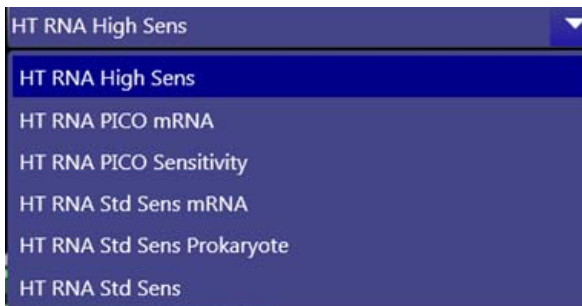

Figure 10. Assay Choice window.
- 2 Select the appropriate assay type (see Figure 10). For RNA Pico Sensitivity the available assay types are: